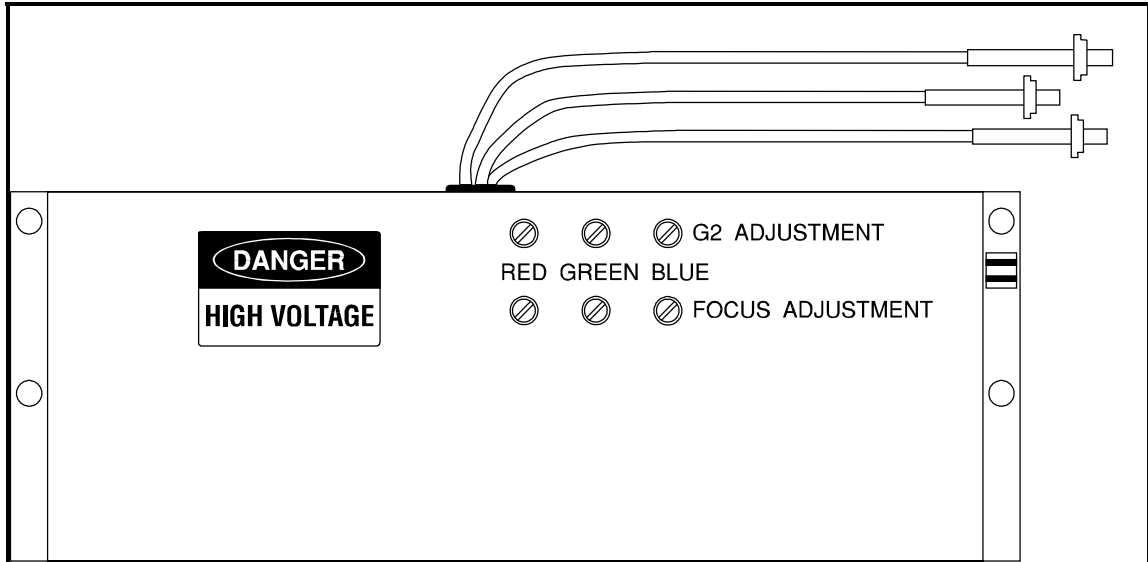

Figure 3-6 Electronic Focus and G2 Adjustments
1. Turn power off at the projector and wait about five (5) minutes for the arc lamp to cool.
4. Pull out the Horizontal Deflection board and verify that the horizontal scan jumper is properly inserted for front (J500) or rear (J501) projection, depending on your application (refer to Figure 3-6 and Table 3-1). Change jumper if necessary.